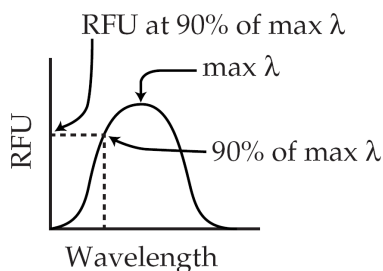

Figure 4.1: Figure 4.1: Plot of RFU vs. Wavelength.
- f Select the optimal excitation wavelength. If the excitation peak wavelength and emission wavelength are separated by more than 80 nm, use the excitation peak wavelength value. If the excitation and emission wavelengths are less than 80 nm apart, use the shortest excitation wavelength that gives 90% maximal emission. (Follow the plot to the left of the peak until the RFU value falls to approximately 90% of the maximum, and then drop a line from the 90% point on the plot to the x-axis—see Figure 4.1)